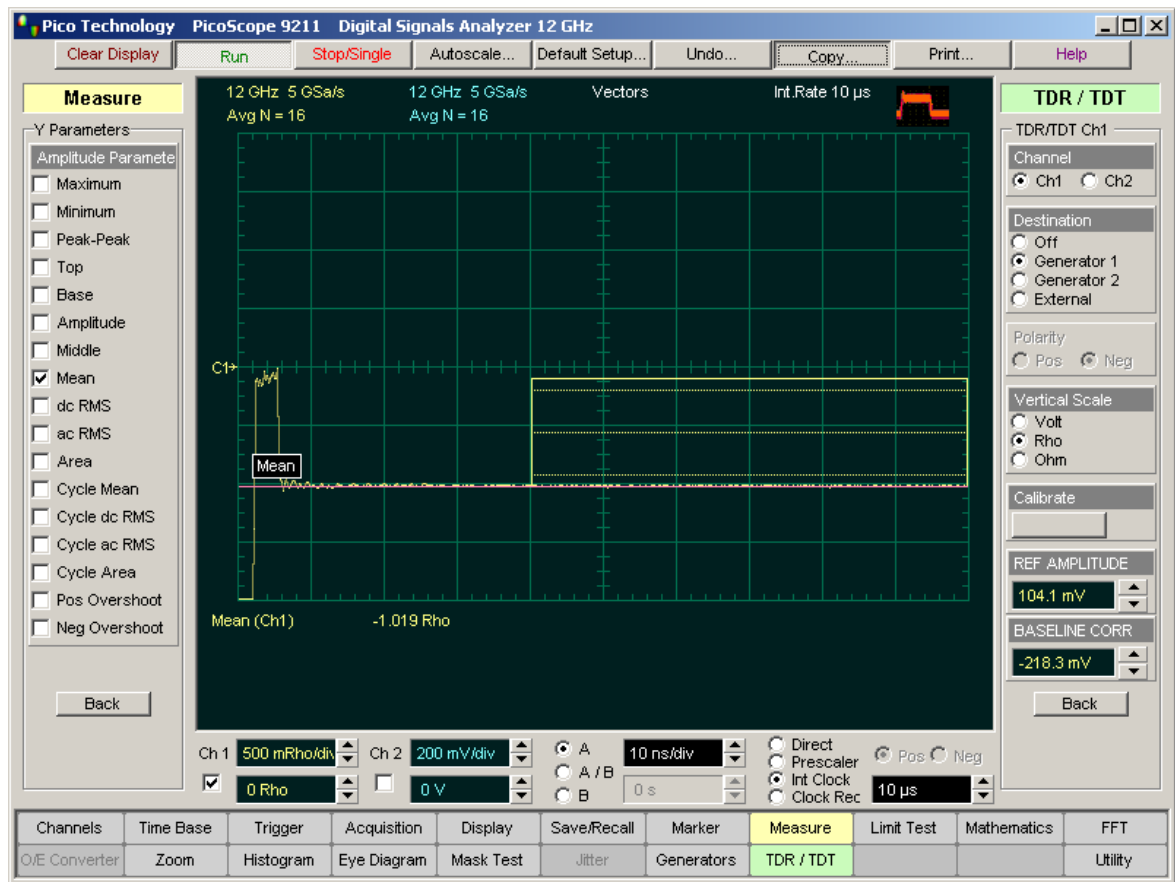

Figure 4
5. Connect a short termination. See Figure 4.
Fig. 4 shows that the rho value is near -1 rho when transmission line is shorted. The Mean measurement shows -1.019 rho.